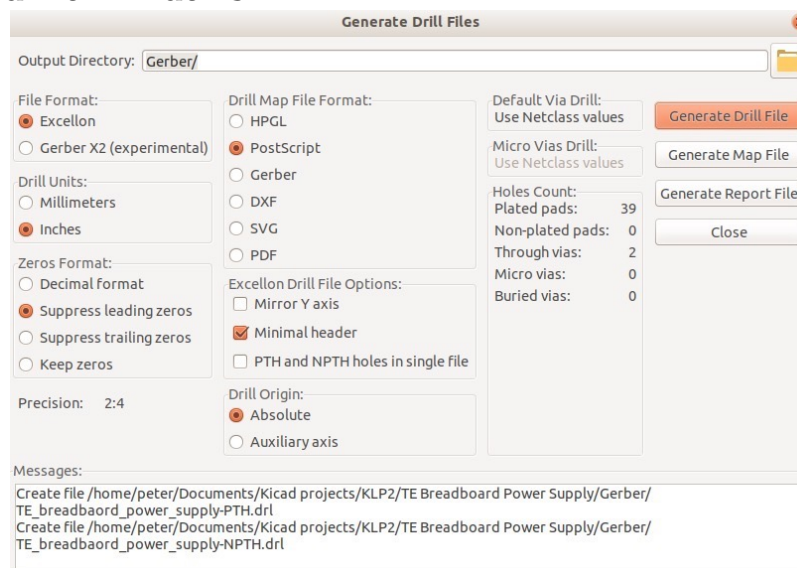

Figure 31.2: The Generate Drill Files window.
3. You still need to create the drill files, unless your PCB has no holes. Click on the Generate Drill Files button in the bottom of the Plot window to do that. If you are uploading your Gerber to PCBWay, copy the setting from Figure 31.2, and click on Generate Drill File. This file will be stored in the Gerber directory along with the rest of the Gerber files. You can now Close both Drill and Plot windows.